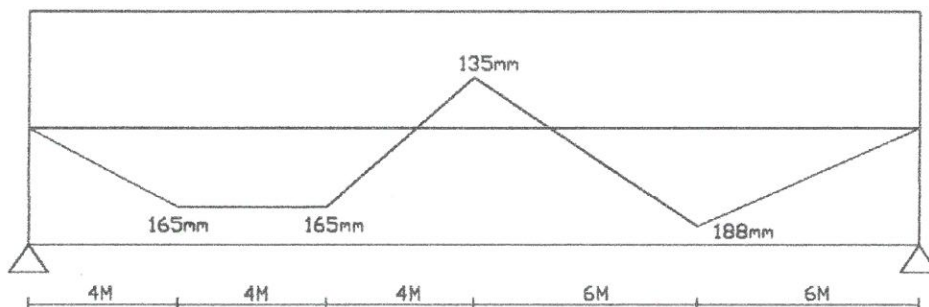

Fig. 1
- Q. 2 The cable profile for two span continuous beam is as shown in following Fig.1, the prestressing force being 1090kN. Find or Locate the pressure line due to the prestressing force alone. CO4 15